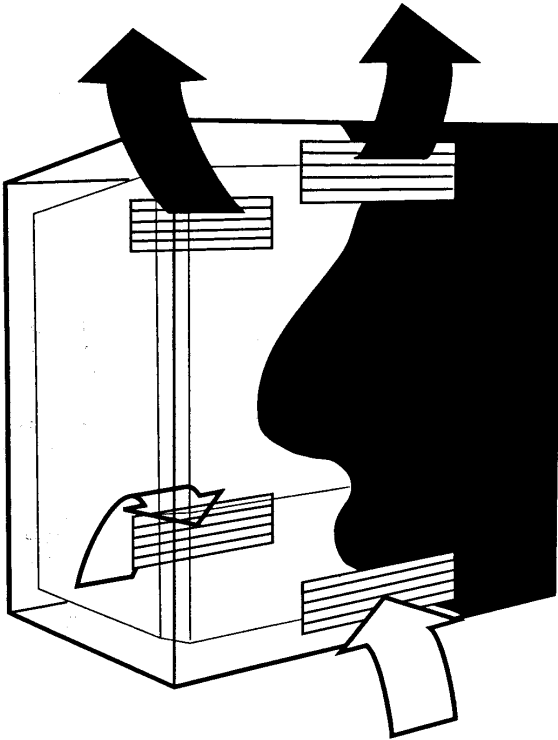

Fig. 14
7.5 Ventilation of Compartments (Fig. 14)